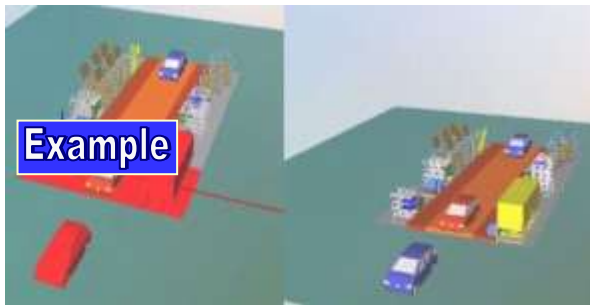

Figure 67: Repositioning two Objects from two Graphic Objects
- 5) Left-click in the empty graphic to undo the selection. Please refer to the Figure 67.